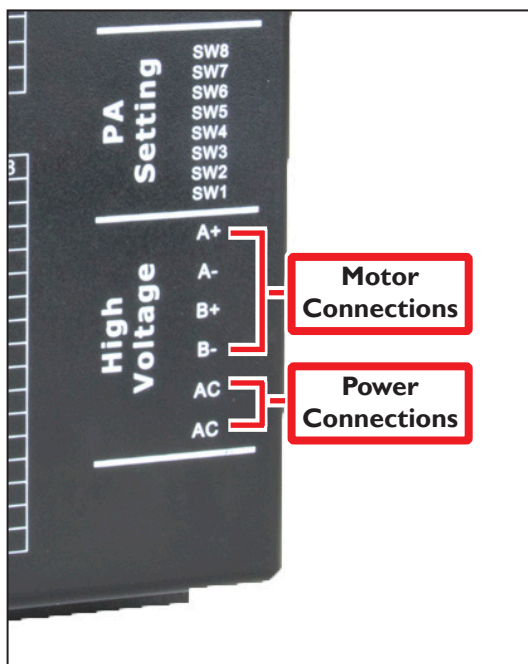
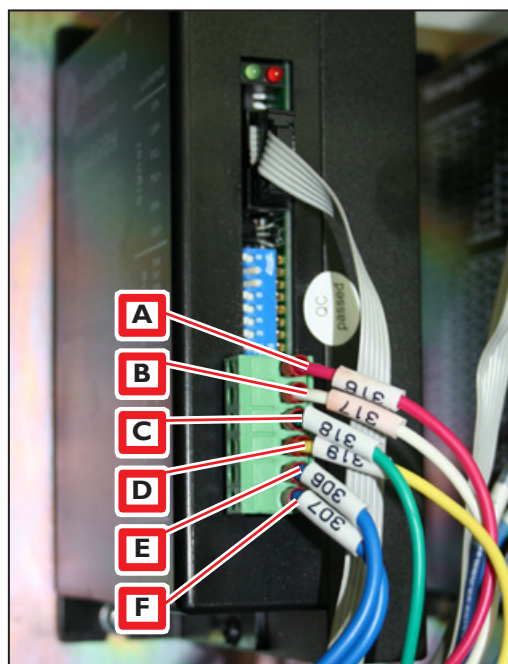

Figure 2
Figure 3
5. Match drive pin function printed on the front of the replacement drive (see **Figure 2**) to corresponding wire number (see **Figure 3**). For additional details, see table below.